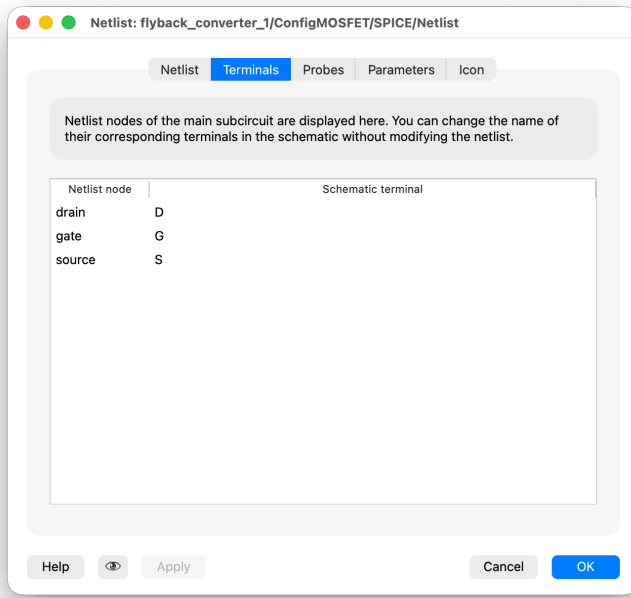

Figure 6: Netlist terminals tab
- 9 From the **Terminals** tab of the netlist window, it is possible to assign custom names to each schematic terminal. You can assign the custom terminal names *D*, *G*, and *S* to the netlist nodes *drain*, *gate*, and *source*, respectively, as shown in Fig. 6.